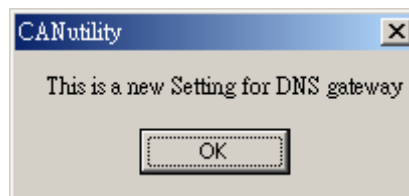

Fig 5-23
Step 8: Start to build the specific EDS file for the i-7241D. If the I/O connection path stored in EEPROM of i-7241D is not correct. The warning dialog would pop-up as figure 5-23.